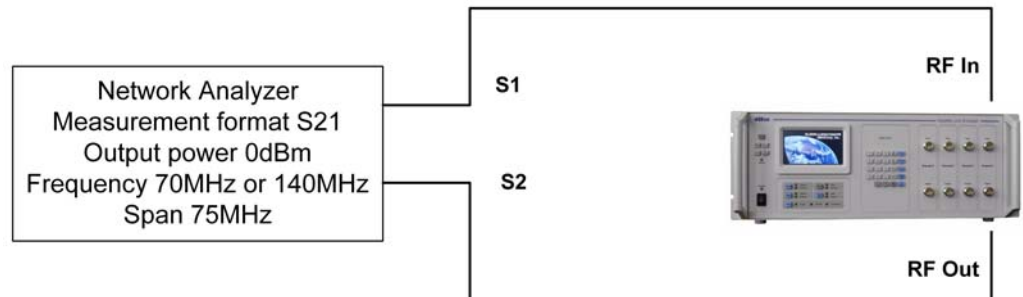

Figure A-3 Phase Offset testing
1. Connect the equipment as shown in Figure A-3. The SLE900 should be in static mode, with delay set to 2 msec and all other parameters set to 0.